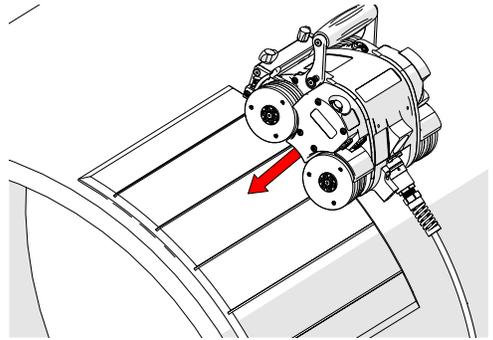

Fig. 215 - Lower crawler to mat
4. Place and hold the crawler on the installation/removal mat (Fig. 215).